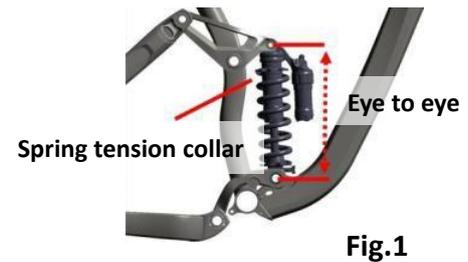

Fig.1
1. Turn the spring tension collar counter clockwise until there is minimal tension on the spring (Fig.1).
3. With a partner aside holding the bike upright, set yourself onto a neutral position with both feet on the pedals and place them horizontally. Cycle the shock a few times and hold still. Measure the eye-to-eye distance (Fig.1).